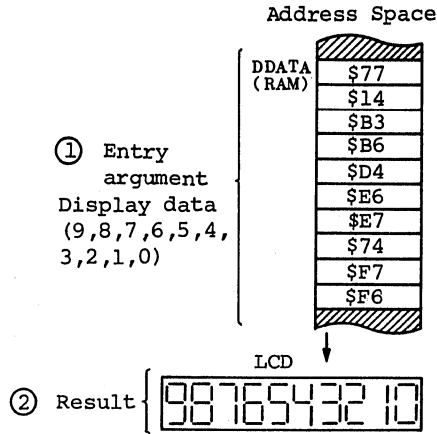

Figure 11-6. Example of H61DSP Execution
b. Example of H61DSP execution is shown in figure 11-6. If entry argument is as shown in part 1 of figure 11-6, characters are displayed as shown in part 2 of figure 11-6.